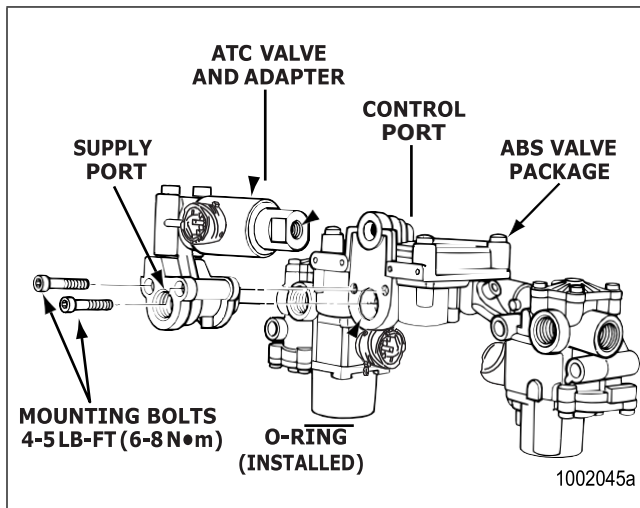

Figure 4.13
3. Use the two M6 Allen-head bolts to attach the adapter to the relay valve. Use a 5 mm Allen-head tool to tighten to 4-5 lb-ft (6-8 N•m). Figure 4.13. @